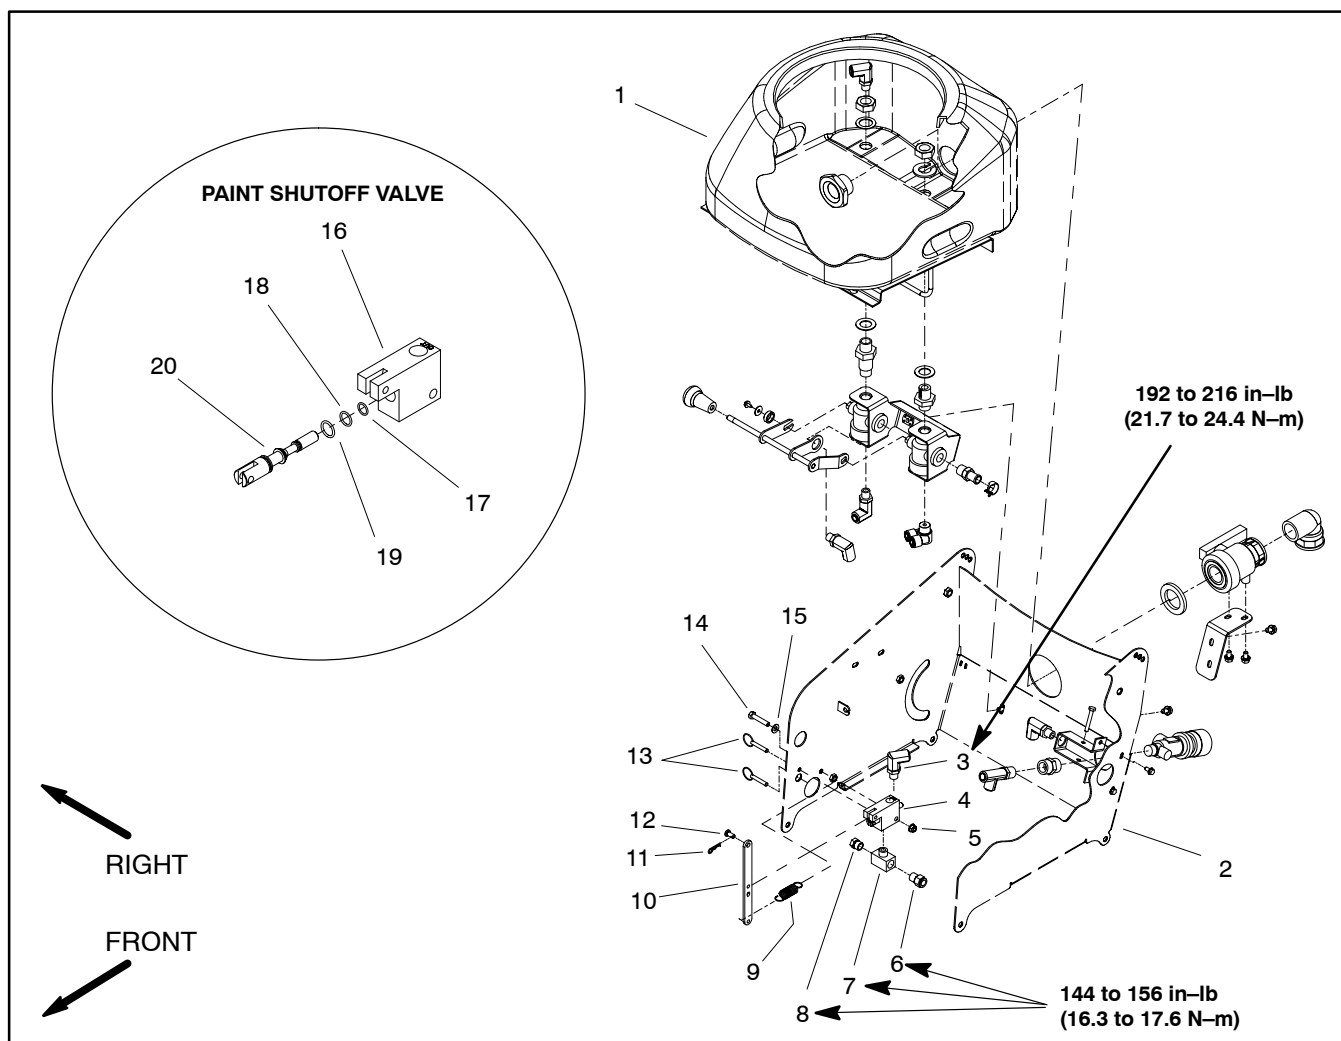
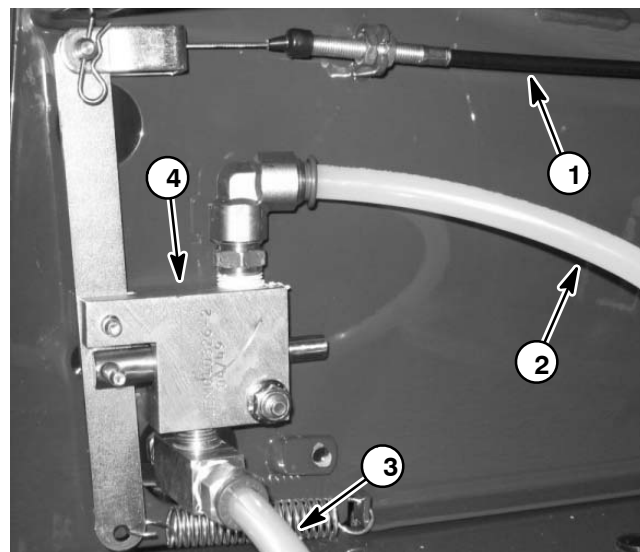
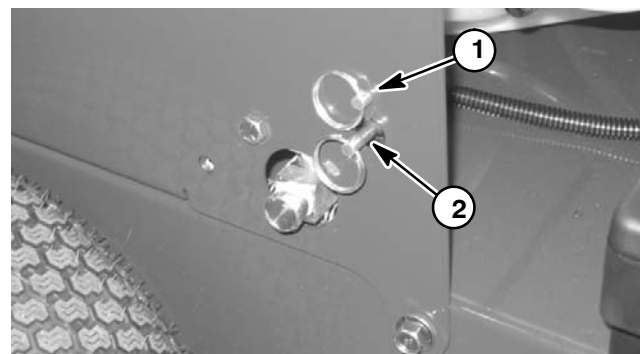

Figure 18
Figure 19
Figure 20
### Paint Shutoff Valve Spool (Fig. 18)
3. Remove two (2) cotterless pins (item 13) that retain lever to shutoff valve (Fig. 20).
7. Install lever and secure with two (2) cotterless pins (item 13).
## Paint Shutoff Valve Removal (Fig. 18)
4. Remove inlet and outlet hoses from paint shutoff valve (Fig. 19) (see Quick Disconnect Fitting in the General Information section).
5. Disconnect extension spring (item 9) from lever (item 10).
6. Remove hair pin (item 11) and pin (item 12) that secure cable to lever.
7. Remove two (2) cotterless pins (item 13) that retain lever to shutoff valve (Fig. 20). Remove lever from valve.
8. Remove flange nut (item 5), cap screw (item 14) and flat washer (item 15) that secure shutoff valve to tank support. Remove valve from machine.
## Paint Shutoff Valve Installation (Fig. 18)
2. If fittings were removed from shutoff valve, apply Saf-T-Lok PTFE Pipe Sealant (or equivalent) to threads of fittings (see Thread Sealant for Paint System Fittings in the General Information section). Install fittings to valve. Torque fittings to values identified in Fig. 18.
3. Position valve to tank support and install cap screw (item 14), flat washer (item 15) and flange nut (item 5). Do not fully tighten nut.
4. Position lever to valve and install two (2) cotterless pins (item 13) to secure lever to shutoff valve.
5. Secure cable to lever with pin (item 12) and hair pin (item 11).
6. Tighten flange nut (item 5) to secure shutoff valve to machine.
7. Connect extension spring (item 9) to lever.
8. Connect inlet and outlet hoses to paint shutoff valve (Fig. 19) (see Quick Disconnect Fitting in the General Information section).
3. Install hoses to fittings on pressure regulator (Fig. 19) (see Quick Disconnect Fitting in the General Information section).